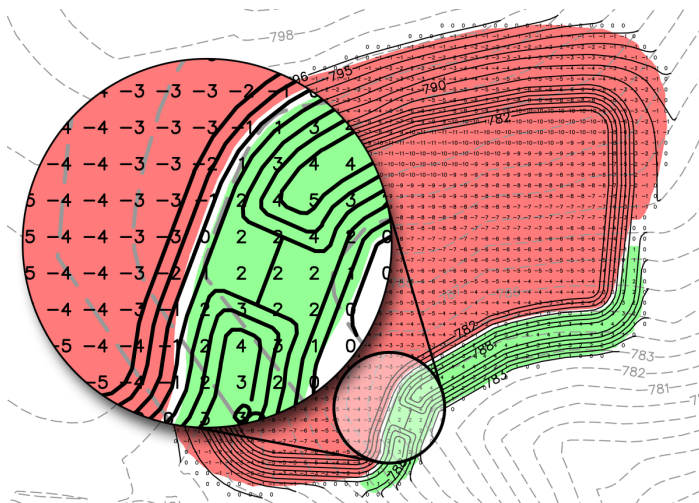

Figure 12: Grid labels make it easy to identify cut-fill locations and amounts.
**Step 7:** When given the opportunity to modify the values, press Enter to accept the grid as defined. When finished, your drawing should look similar to Figure 12.